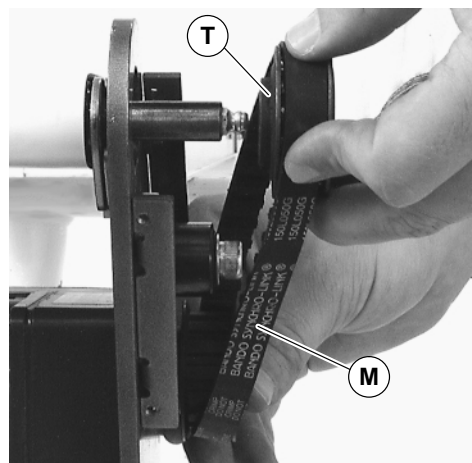

Figure 12
3. Remove timing belt (M of Figure 12).
NOTE: If timing belt does not slide over pulley flange, loosen driven pulley set screws (T of Figure 12) and remove pulley with belt. For re-installation, see steps 5 through 8 on page 5.
5. Remove timing belt (M of Figure 12).